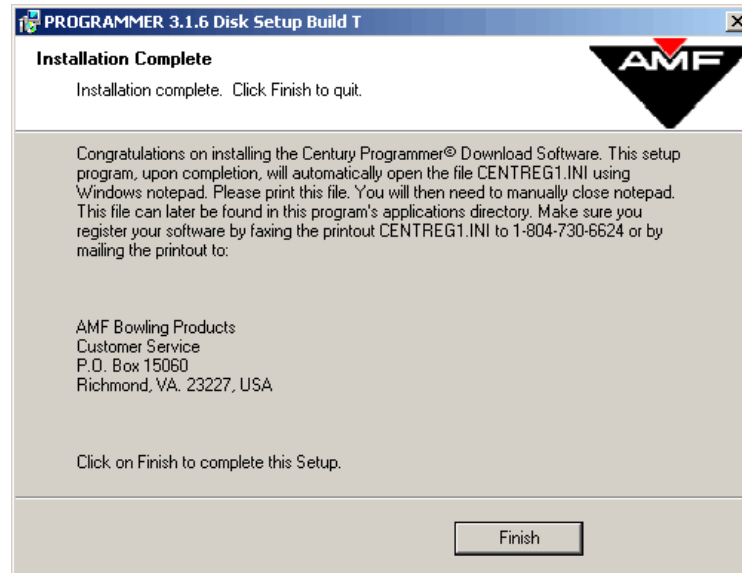

Figure 1-18
17. Century Programmer™ is now installed on your computer. The screen in **Figure 1-18** shows an address and phone number that are used for software registration. Once you click the <**Finish**> button, a notepad will open with information that needs to be sent to QubicaAMF. You may choose to send it either by fax or by mail.